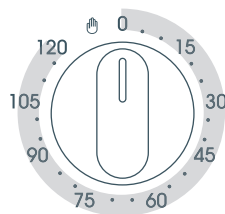

Fig. 17 Setting the timer to turn the oven off automatically
- 3 Set the timer by turning the timer knob clockwise to the length of time you want the oven to cook (Fig. 17).